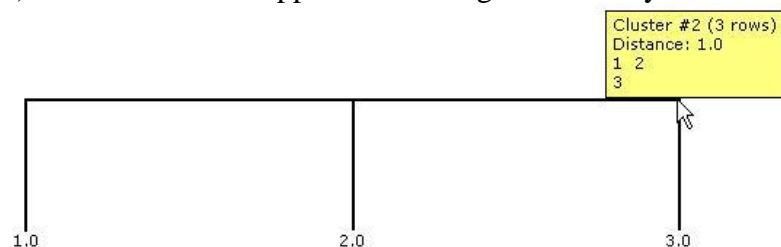

Figure 8.3: Viewing a single linkage
Single linkage: The distance between two clusters is determined by the distance of the two closest objects (“nearest neighbors”) in the two clusters (Figure 8.3). Single linkage tends to produce clusters that form long “chains” or “strings.” This typically results in a smaller amount of variance in the height of clusters. Figure 8.3 shows single linkage on 1, 2, and 3. First, 1 and 2 are combined with a distance of 1. Next, the clusters (1, 2) and (3) are combined with a distance of 1 (the distance from 3 to 2). The two clusters appear to be merged since they have the same distance.